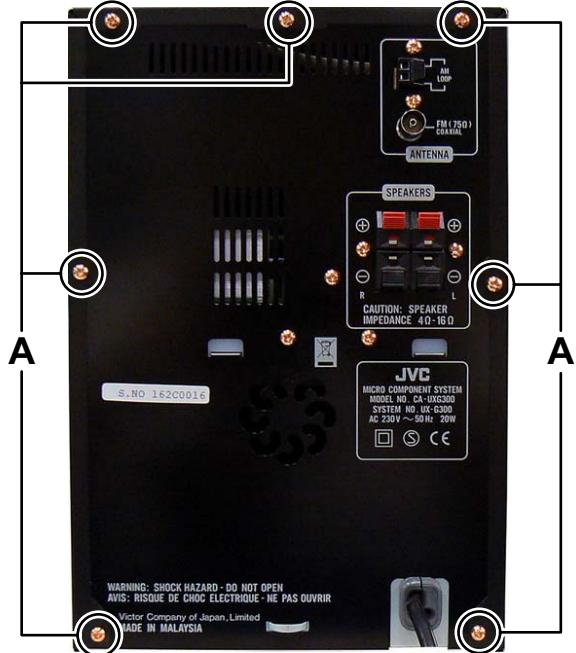

Fig.1
3.1.1 Removing the Metal Cover (See Fig.1, 2)
(See Fig.1)